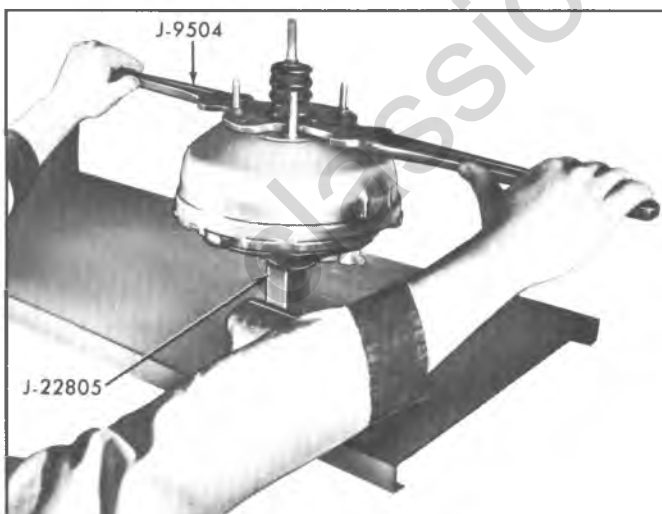

Fig. 2B--Unlocking Front and Rear Housings
- Attach base of Holding Fixture J-22805 to front housing with nuts and washers and draw down tight to eliminate damage to studs. Clamp base in a bench vise with the power section up (fig. 2B).
- Straight Mounting Bracket and Chevelle (Fig. 2B)** - Place Spanner Wrench J-9504 over studs on rear housing and attach with nuts and washers. Draw nuts down tight to eliminate bending or damaging of studs.